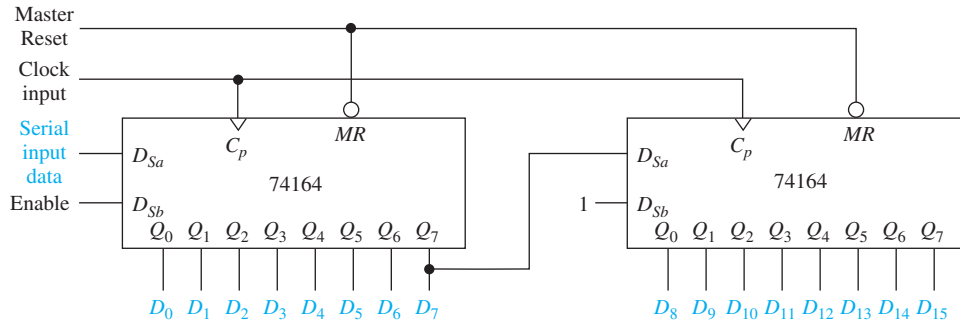

Figure 13-21 A 16-bit serial-to-parallel converter.
- 13-16.** The serial-to-parallel converter in Figure 13-21 could also be used for serial in to serial out. True or false?